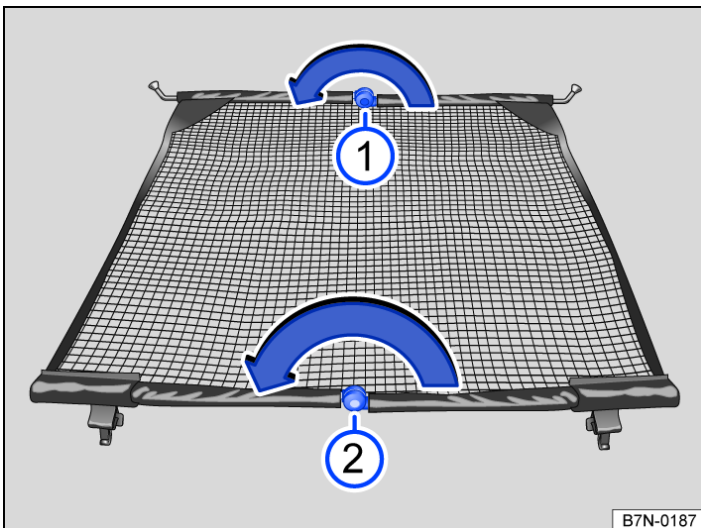

Fig. 2 Folding in the net partition.
1. Press the release button and, with the release button held down, fold in the crossbar in the direction of the arrow → *fig. 2* ①.
2. Repeat the process with the other release button → *fig. 2* ②.